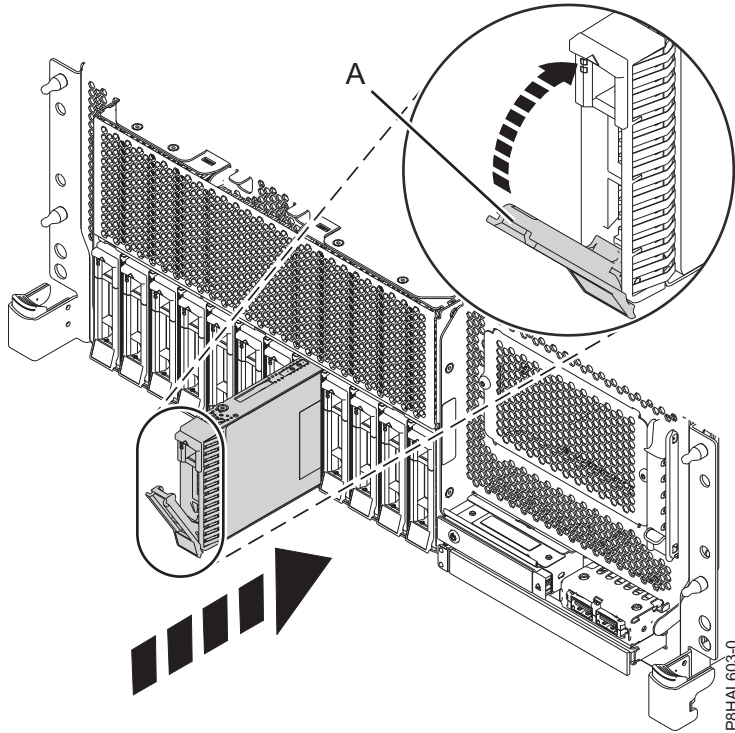
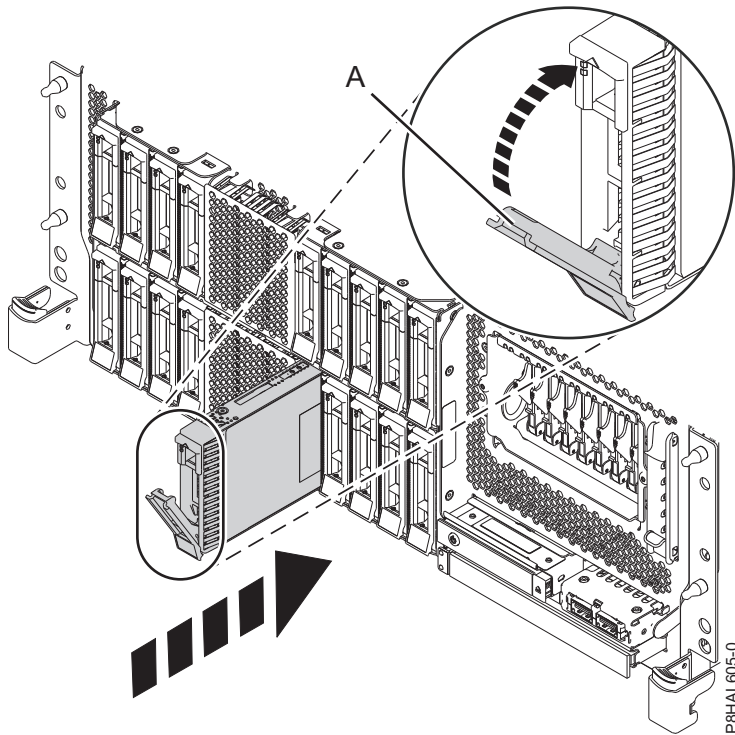

Figure 34. Installing a disk drive in a rack-mounted base function system
Figure 35. Installing a disk drive in a rack-mounted expanded function system
4. Unlock the drive bay handle (A) by pressing it and pulling it out toward you. If the handle is not all the way out, the drive does not slide into the system. See Figure 34 on page 40, Figure 35 on page 40, Figure 36 on page 41, and Figure 37 on page 42.
9. When the identify LED turns on solid, slide the drive all the way into the system, and push in the drive handle (A) until it locks, as shown in Figure 34 on page 40, Figure 35 on page 40, Figure 36 on page 41, and Figure 37 on page 42.